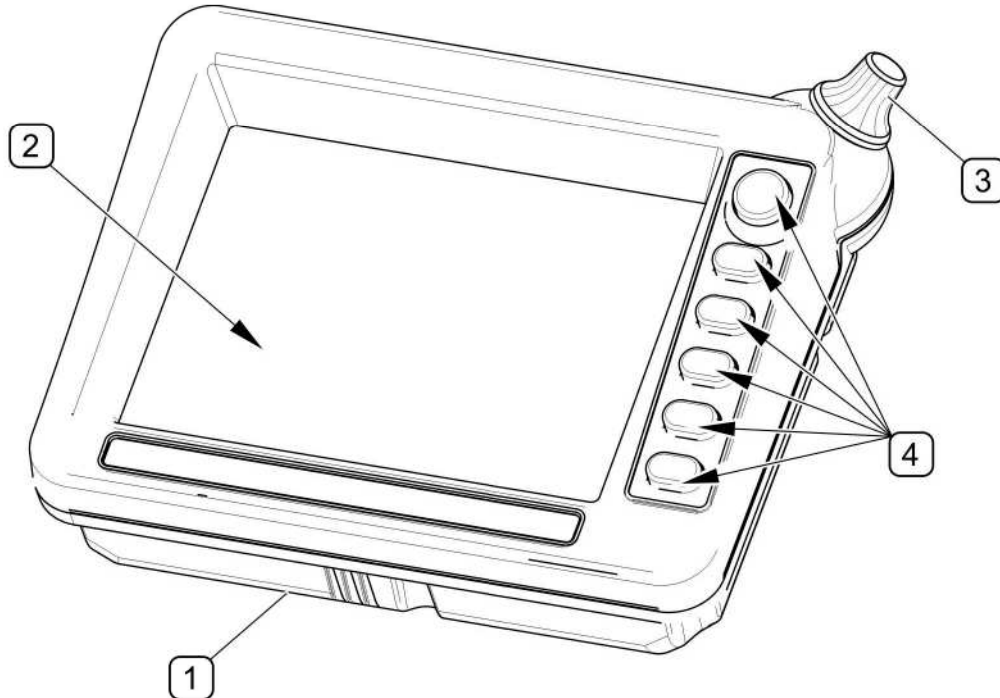

FIG. 4.16 General design of control panel
(1) - enclosure; (2) - LCD display ; (3) - parameter change knob; (4) - function push-buttons
Control panel (FIG. 4.16) consists of enclosure (1), colour LCD display (2), parameter change knob (3) and six function push-buttons (4).